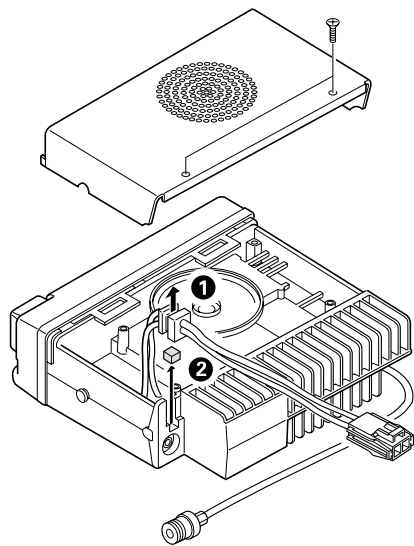
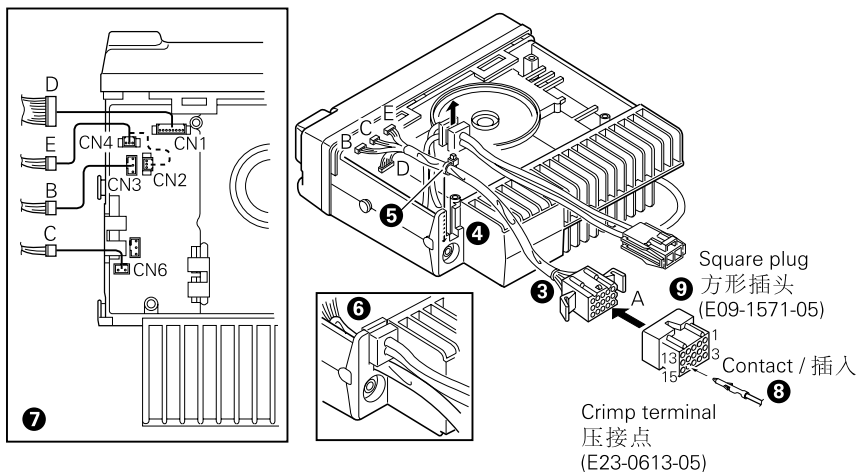

Fig. 1 / 图 1
Fig. 2 / 图 2
1. Remove the upper and lower half of the transceiver case, and lift the DC cord bushing (1) from the chassis.
2. Remove the pad as shown in Figure 1 (2).
3. Insert the KCT-19 cable (3) into the chassis (4). The wire harness band (5) must be inside the chassis.
4. Replace the DC cord bushing (6).
5. Connect the KCT-19 to the TX-RX unit (A/2) as shown in Figure 2 (7).
6. Connect the KCT-19 to the external accessory by inserting the crimp terminal (8) into the square plug (9), both of which are supplied with the KCT-19.
2. 按图1所示取下垫片(2)。
5. 按照图2(7)所示将KCT-19连接到发射-接收单元上(A/2)。